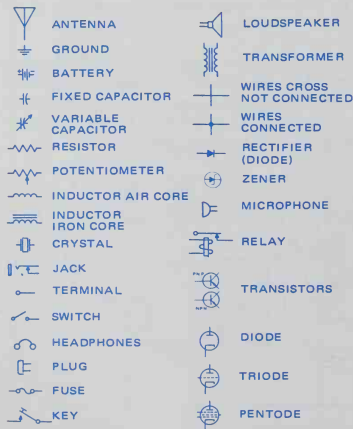

Fig. 10-9. Electrical symbols.
Unlike other types of drawing you have been doing, electrical diagrams are not drawn to any particular scale. The diagram should be large enough to show clearly the various parts, and no larger. The symbols themselves may vary in size, but they should be drawn correctly and in proportion, Fig. 10-9. All lines are drawn about the weight of visible object lines, except when some part is to be emphasized, and then a heavier line is used.
1. Use the Plan A plate layout and draw as many of the electrical symbols, Fig. 12-9, and the electrical symbols, Fig. 10-9, as space will permit.